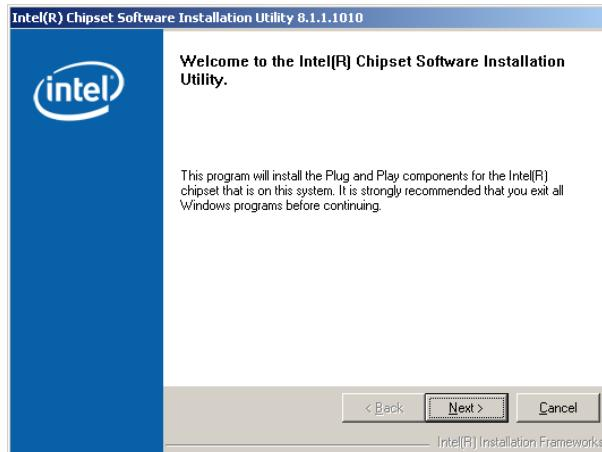

Figure 7-3: Chipset Driver Installation Welcome Screen
Step 9: The welcome screen in **Figure 7-3** appears.
Step 10: Click **NEXT** in **Figure 7-3** to continue the installation process.